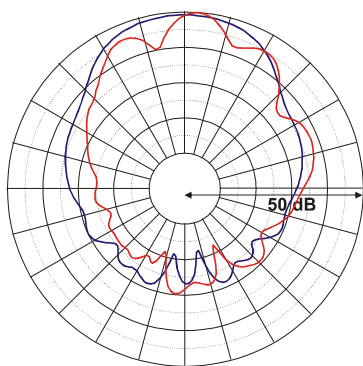
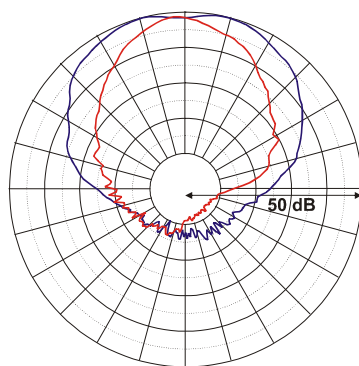

Figure 4b. Polars at 2 kHz
Figure 4c. Polars at 10 kHz
Polars are not always as well behaved though. At the crossover region, interference between bands results in an irregular polar response, which can be clearly seen on the vertical polar in Figure 4b. Also, if the polar does not point straight, that is an indication that there is no alignment between adjacent bands. Moreover, constant directivity (CD) horns often show SPL maxima off-axis (Figure 4c).
There is some disagreement among specification writers as to what the 0-dB reference in the calculation of the coverage angle should be. Some manufacturers take the on-axis level, while some others use the maximum output level exhibited by the polar. If the polar is nice and smooth both criteria will yield the same result, but if they are irregular, such as those in Figures 4b and 4c, resulting coverage angle values may differ significantly.